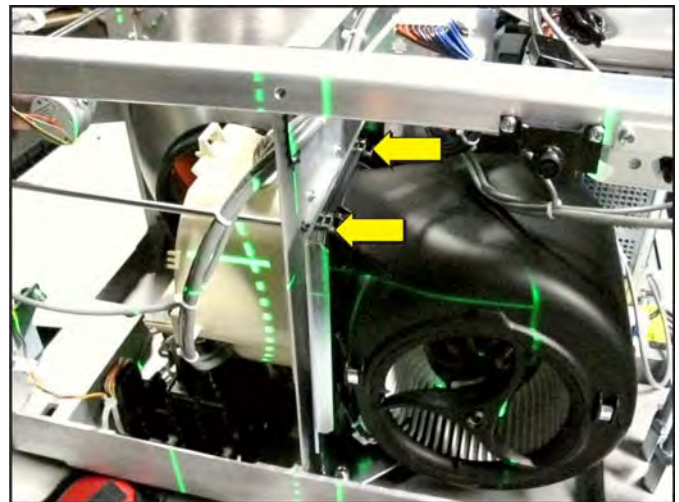

Figure 5-62 Main AC Blower
5. Using a #2 Phillips™, remove the four screws securing the blower (two screws on top and two on bottom). (**Figure 5-62**)